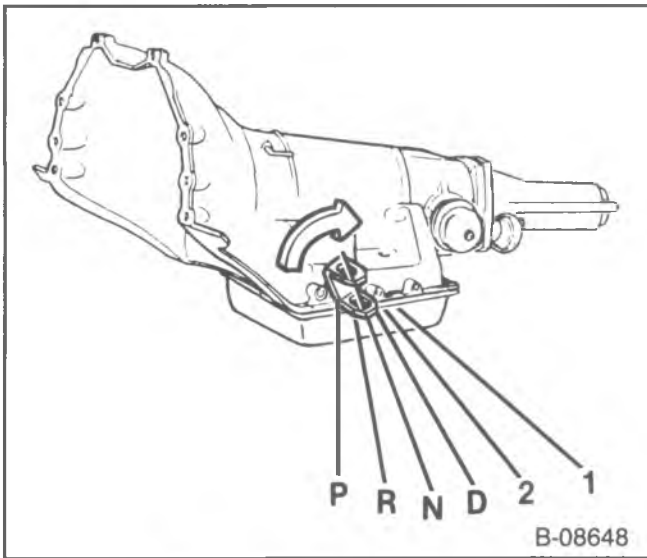

Figure 63—Shift Positions
1. Loosen the screw (242) or the nut (236), as used.
- Move the shift lever (A) to the forward position, the back to the second detent. (Figure 63).
4. Hold the rod (240) tightly in the swivel (232)